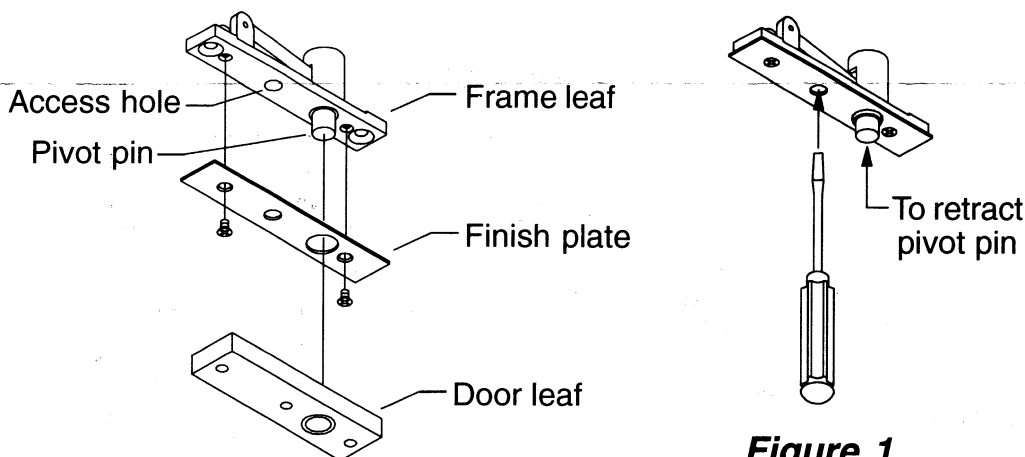

Figure 1
4. With door in open position (about 90° to jamb), carefully fit door onto bottom pivot at a slight angle. Tip door into vertical position, **aligning top pivot leaves in door and jamb.** With pivot leaves aligned, insert a screwdriver into access hole in top pivot leaf. Use screwdriver to push up lever arm, which will retract pivot pin (Figure 1). When pivot pin is retracted, position door so pivot pin will set down into bearing in door leaf, then remove screwdriver. The door should now swing freely. If it does not, double check templating dimensions.
5. To remove door from jamb: Open door to about 90° position. Insert a screwdriver into access hole in frame leaf. Use screwdriver to push up lever arm, which will retract pivot pin (Figure 1). Door can now be removed from opening.